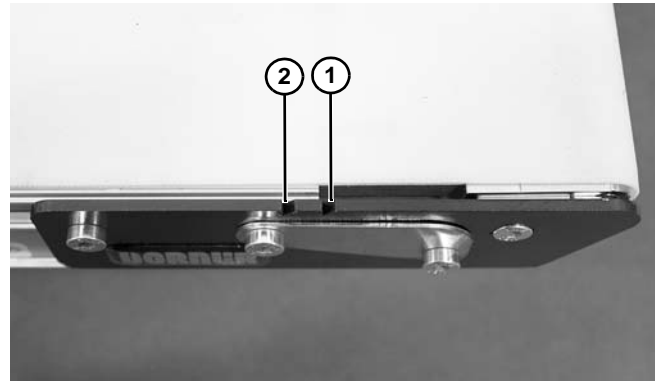

Figure 79
2. Adjust head plate assembly so end of conveyor frame aligns with or between the head plate tensioning marks (**Figure 79, item 1 & 2**). Replace belt if proper tensioning can not be obtained while aligning the end of the conveyor frame with or between the tensioning marks. See NOTE.